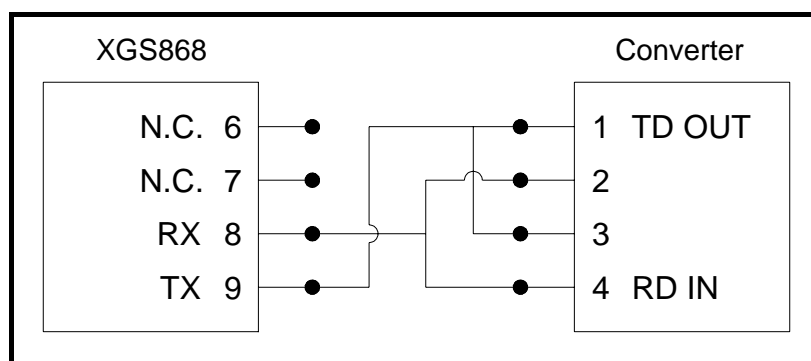

Figure 1-4: Typical RS485 Connections
3. Feed one end of the cable through the conduit hole, wire it to terminal block J1 and secure the cable clamp. Connect the other end of the cable to the converter, as shown in Figure 1-4 below.